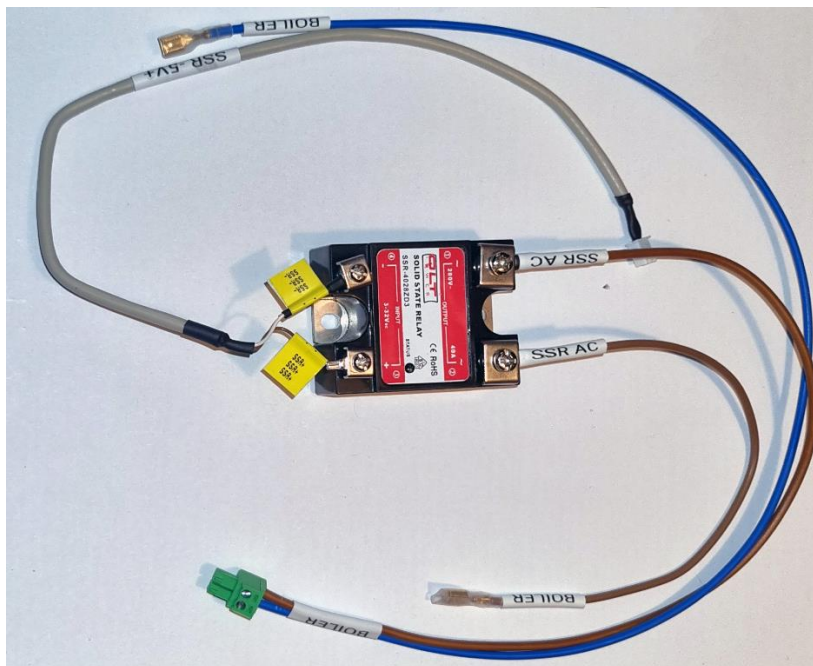

Fig. 7.2
- Connect the SSR -5V+ cable to the relay to 3-32VDC ports , brown to positive (SSR+) and white to negative (SSR-), then connect the remaining brown SSR CABLES to AC side (fig. 7.2)